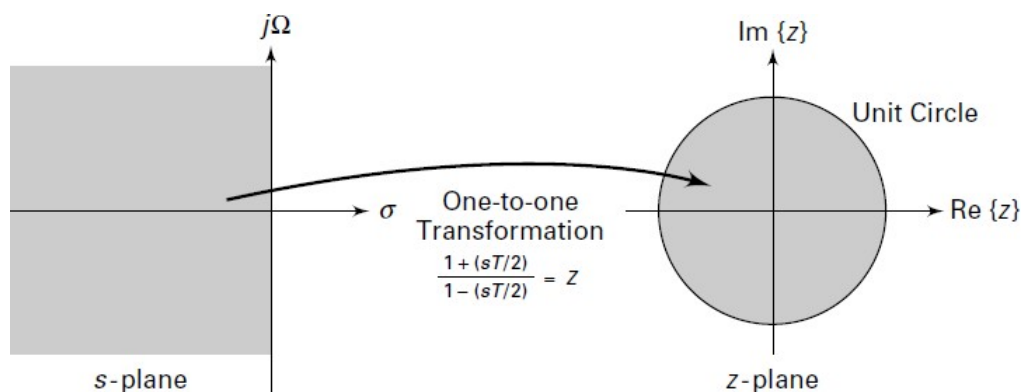

Figure 1: Complex-plane mapping in bilinear transformation
This shows that Ω is nonlinearly related to (or warped into) ω but that there is no aliasing. The complex plane mapping under (1) is shown in Fig.1.